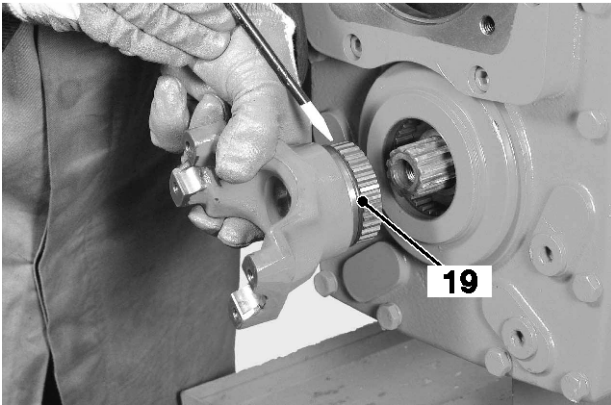

Fig 35.
- 18** Check the condition and position of the O-ring **19**. Replace a defective O-ring. → Fig 35. (□ F-23).